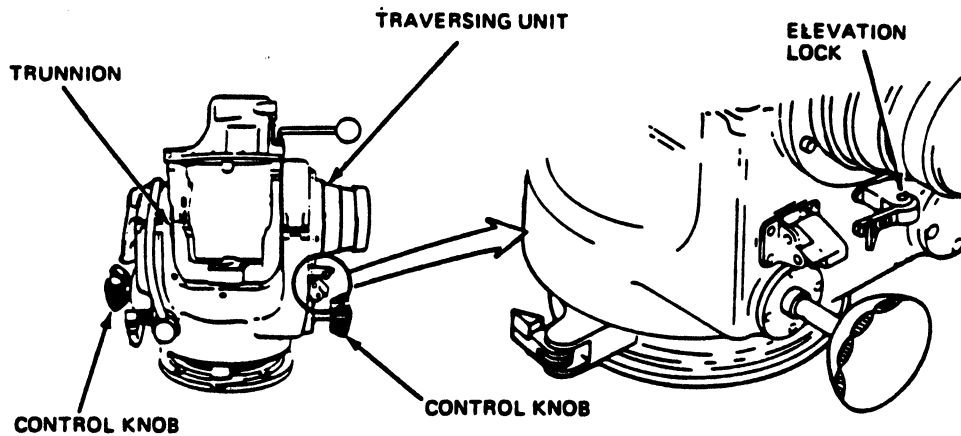

Fig 2-24. Installing traversing unit--continued.
Step 3. Ensure that the elevation lock is in the LOCKED position. If not, turn the control knobs forward until the trunnion clicks and locks in place (fig 2-24).